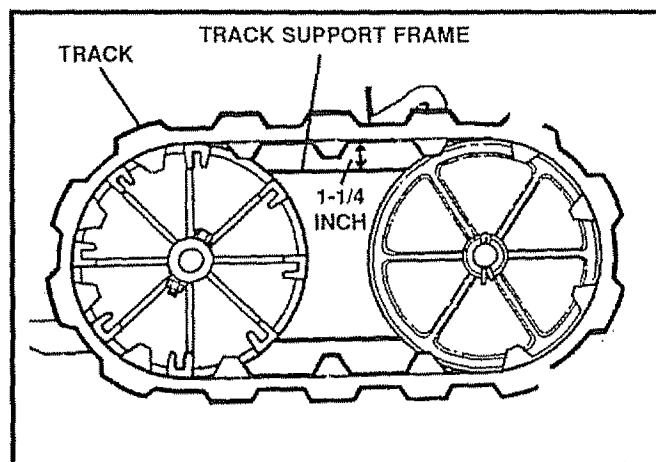

FIG. 35
- Measure the distance between the track and the top of the track support frame (See Fig. 35). The distance should not be more than one and one quarter (1-1/4) inches.